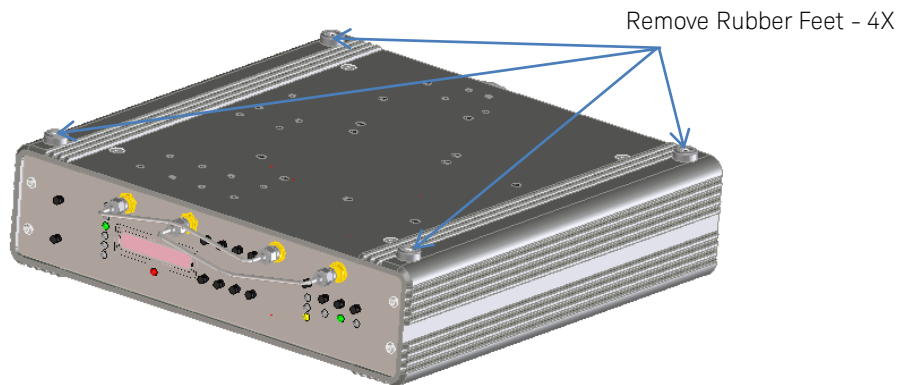

Figure 1: Remove feet
2. Remove the four feet from the instrument using a 1/16" Allen wrench. Be careful to keep the instrument securely on the table. Refer to Figure 1. These four threaded holes will be used to secure the instrument to the rack mount kit.